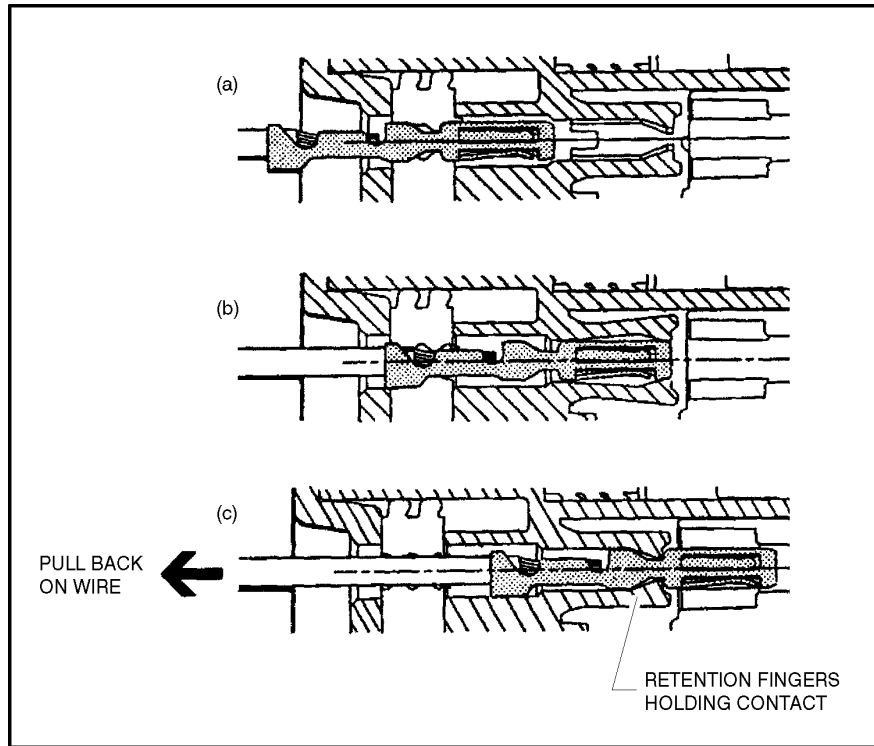

Figure 7-9. Connector Assembly Figure 2
2. Pull back on the contact wire with a force of 1 or 2 lbs. to be sure the retention fingers are holding the contact (See Figure 7-9.).